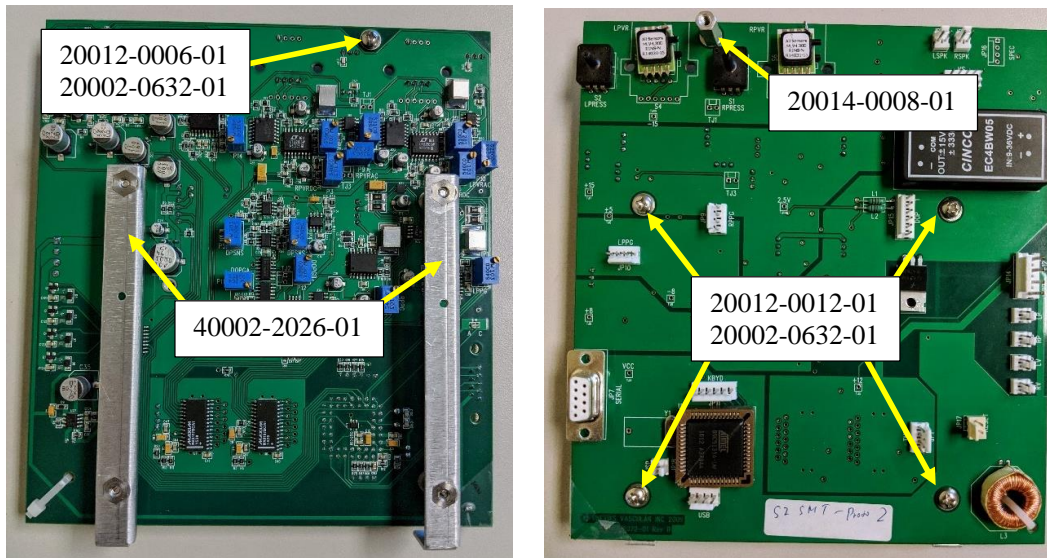

Figure 42
- 16.1. Attach the two (2) PCB Brackets (40002-2026-01) to the bottom of the SMT Motherboard (11919-0000-01) using four (4) 6-32x $\frac{3}{4}$ " Pan Head Screws (20012-0012-01) and four (4) #6 Lockwashers (20002-0632-01) as shown in Figure 42. Also attach a 6-32 x $\frac{1}{2}$ " spacer (20014-0008-01) using a 6-23 x $\frac{3}{8}$ " pan head screw (20012-0006-01) and a #6 lockwasher as shown in Figure 42.